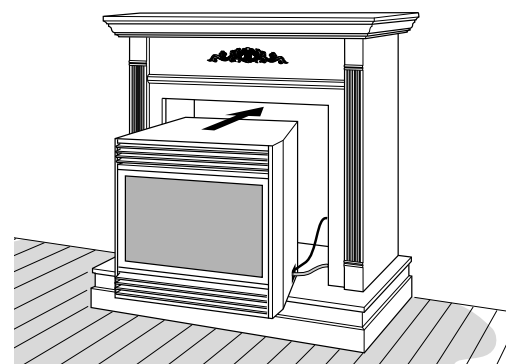

Figure 23 - Inserting Fireplace Into Cabinet Mantel
11. Carefully insert fireplace into cabinet mantel (see Figure 23). Be careful not to scratch or damage hearth base, cabinet mantel, or any laminate trim on hearth base. Remove protective material from top of hearth base and from front of fireplace (if any). **Note:** You can secure fireplace to hearth or floor. Open lower louver. Locate screw holes in bottom of base. Tighten wood screws through these holes and into hearth or floor.